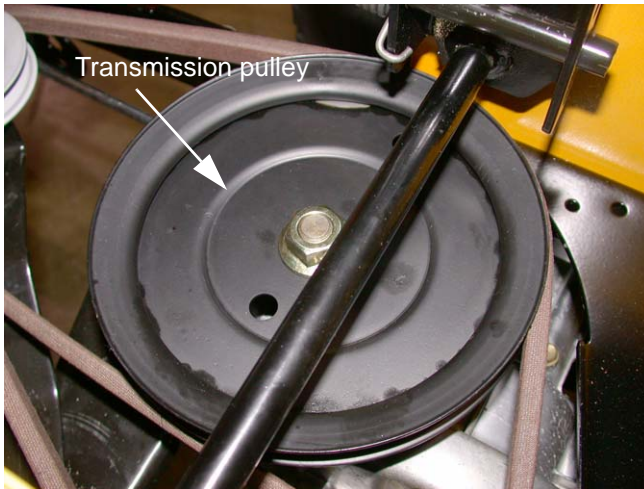

Figure 21.4
- 21.4. Using a 7/8 socket and extension, remove the nut securing the transmission pulley to the transmission. See Figure 21.4.